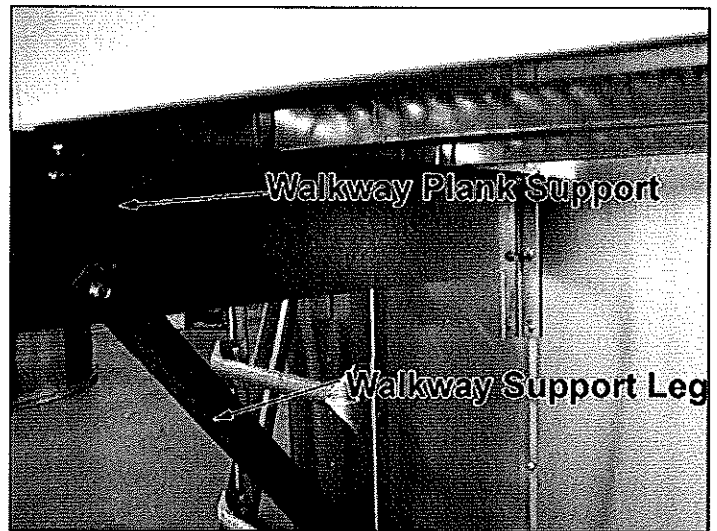

Figure 11
- Now bolt the (1) walkway plank support, which has a top flange that is bent to the left, so the top walkway mounting bracket is just to the left of the ladder. See Figure 11.